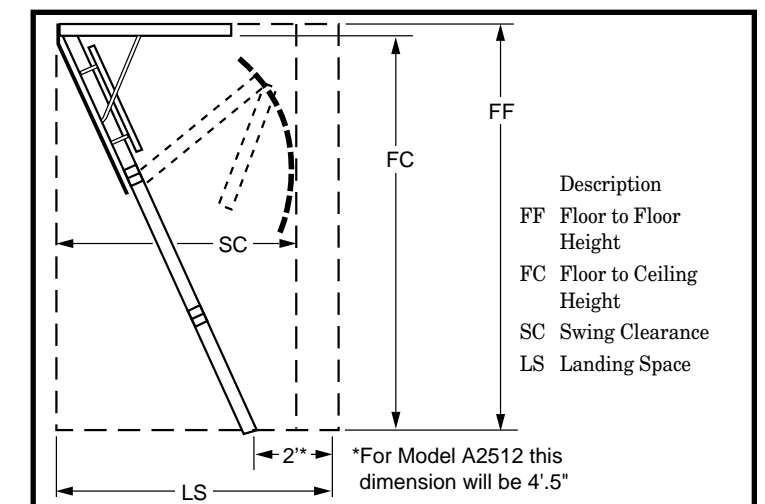

Figure 6
Before Proceeding: You must have: a) a suitable ceiling and joist structure, b) the persons, tools and materials needed, c) the appropriate ladder for your ceiling height (see Figure 6 and Table 1 below), and d) a level and flat location in the ceiling.
STEP 2. Check that you have the swing clearance (SC) needed (see Figure 6 and Table 1).
STEP 3. Check that you have the landing space (LS) needed to let both legs rest flat on the floor (see Figure 6 and Table 1).